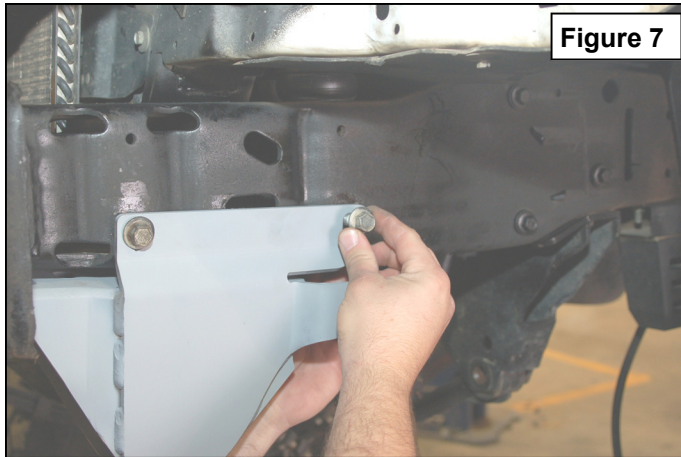

Figure 7
11. Locate the new Rough Country front hanger brackets. **See Figure 7.**
12. Install re-using the factory 15 mm bolts that secure the frame hook, side and rear portion of the bracket to the frame. **See Figure 7 & 8.**